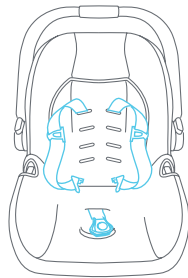

Fig. 37-1
- Place the Safety Seat on a firm and level surface. Move the carry handle to the non rocking position. Loosen the Harness Straps by pulling on the straps while pushing on the Harness Adjuster Button located below the pad just in front of the buckle. Unfasten the Harness Chest Clip. Unbuckle the Harness Straps and drape the Harness Straps over the Seat back or to the sides of the Safety Seat (Fig. 37-1).